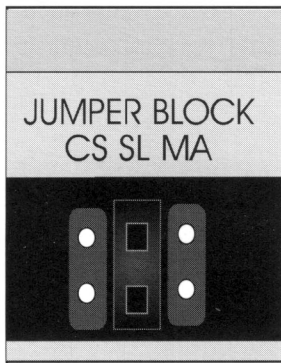

Fig. 6: Configuration jumper set to "Slave"
4. Locate the configuration jumper on the back of the CD-ROM and place the jumper over the middle (SL) pair of pins. (See Figure 6.) This configures the CD-ROM as the **slave** device.